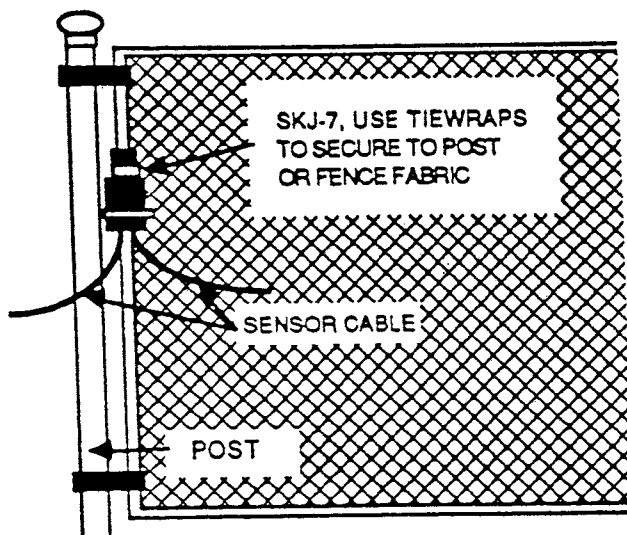

Figure 4-2. SKJ-7 Splice Kit Junction Device Mounting
The SKJ-7 mounts vertically, and attaches directly to fence fabric with tie wrap. See Figure 4-2.
1. Start sensor cable installation near the junction device (connects to non-sensitive feed cable from the processor). Make the first tie with enough cable to reach the junction device and form a service loop for a moisture drip leg (Figure 4-2).